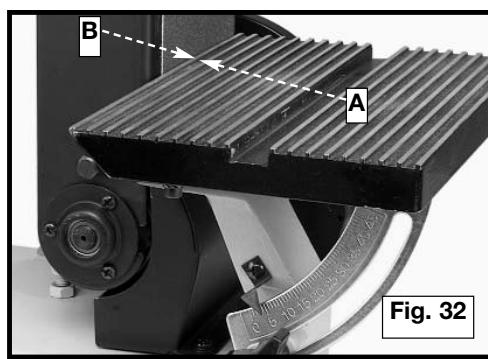

Fig. 32
**⚠ WARNING:** To avoid trapping the work or fingers between the backstop and the sanding belt, the edge of the table (A) Fig. 32 should be positioned a maximum of 1/16 in. away from the sanding belt (B).